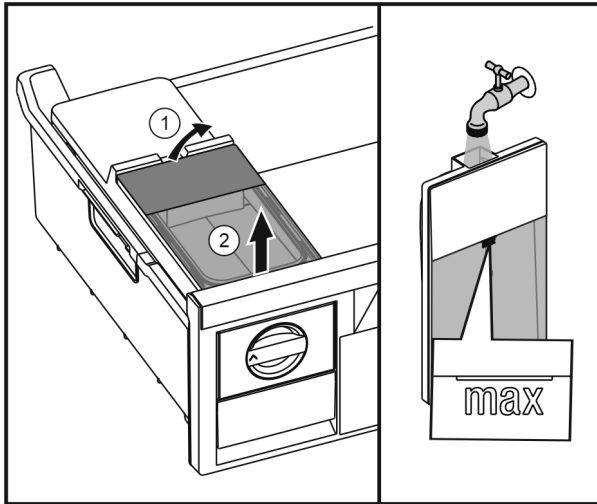

Fig. 46
- ▶ Lift up the water tank at the rear Fig. 46 (1) and remove to the top Fig. 46 (2).